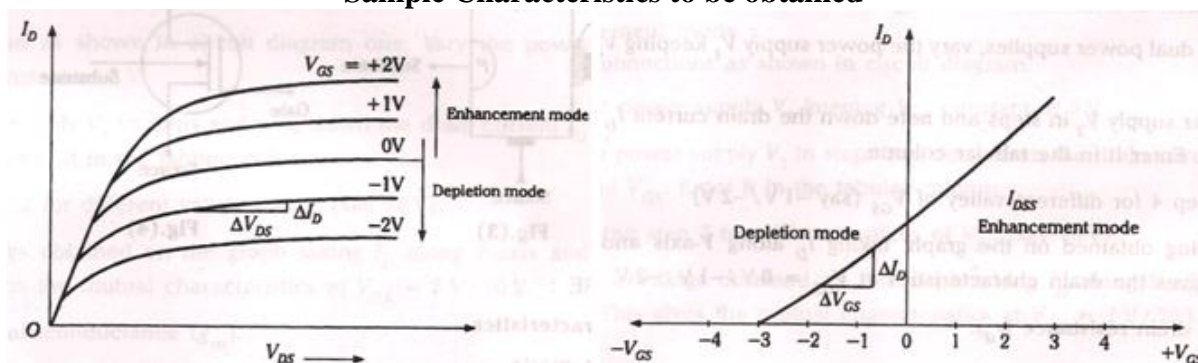

Fig. 2a. Drain Characteristics and b. Transconductance (or mutual/transfer) characteristics
5. From this plot of drain characteristics find the drain resistance $r_d = \frac{\Delta V_{DS}}{\Delta I_D}$, which is shown in Fig. 2a.